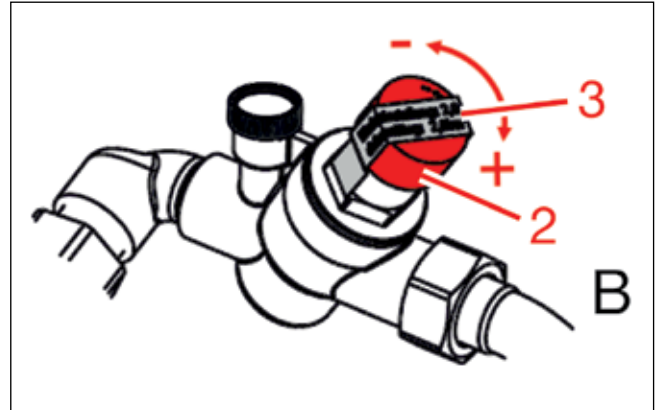

Figure 13: Pressure reducer on EMCF version B
Version A: Loosen the fixing screw (1) and set the pressure reducer to 1.5 bar - max. 2.0 bar. Then tighten the screw again to fix the setting of the pressure reducer (fig. 13).